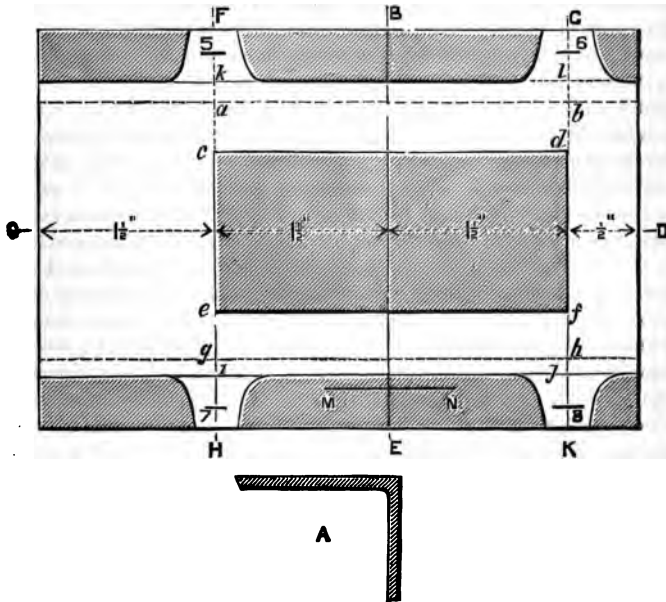

FIG. 108.—FRAMING (A) AND PLATE.
boiler and side and front frames in a single casting. It is generally possible with a little contrivance to find a homely substitute for this part, but castings are cheap. If a sheet of brass can be obtained $\frac{1}{16}$ in. thick, you may build up a very good frame by bending down the two sides so as to form the side frames, like Fig. 108 (A). But to bend brass you have to anneal it by heating it red hot and then letting it cool slowly. You must not think you can bend it while red hot, as you would do if it
The flat plate, before being thus bent, will have the form of Fig. 108. The shaded part is that to be cut away, the white part being the plate that will ultimately remain. Take the plate you design to use, and hammer it on an anvil all over, rendering it as flat as possible, and then file or grind it to a true surface. You need only put a finish on the upper side of it. Now draw your centre lines exactly at right angles to each other, C D, B E. You will notice that B E is not in the actual centre line—*i.e.*, not equi-distant from both ends—but this is because you have to leave an extra length at the tender end to form the footplate for the engine driver to stand on, and for another reason, to be pointed out by-and-by, and B E is more convenient where placed, *i.e.*, as the centre line of the remainder of the bed plate. If the whole plate is 5in. long, you must not have less than 1½in. of it for the footplate, and then it will divide as shown, the centre line B E being 3in. from one end and 2in. from the other. On each side of these primary lines we have to draw others as shown, *ij* and *kl* for the edges of the sides, forming the side frames; *a b*, *g h*, are the lines to show where the plate is to be sharply bent down to form these sides, *c d*, *ef*, the sides of the hole to receive the boiler; F H, G K will form the ends of this hole, and also the centre lines of the wheel boxes to take the axles, this being for a four wheel engine. These lines will fall half way between 1 and 2, and 3 and 4 respectively.